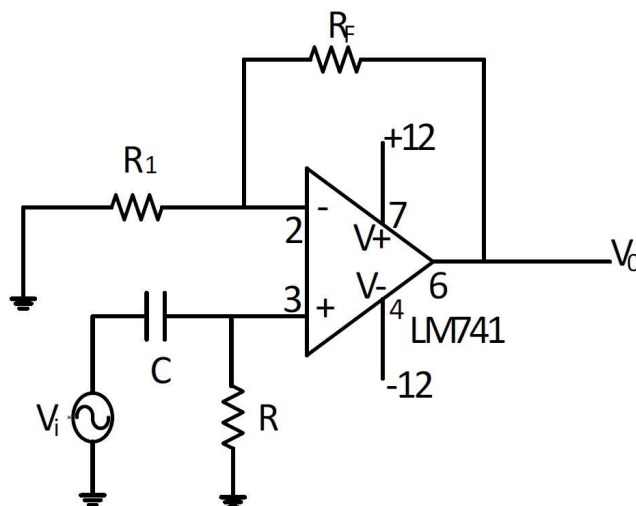

Fig.4
1. Assemble the circuit shown in Fig.4 with $R_1 = 10\text{k}\Omega$, $R_2 = 100\text{k}\Omega$, $R = 1\text{k}\Omega$ and $C = 0.1\mu\text{F}$. Make sure the power supply ground is connected to the circuit ground.